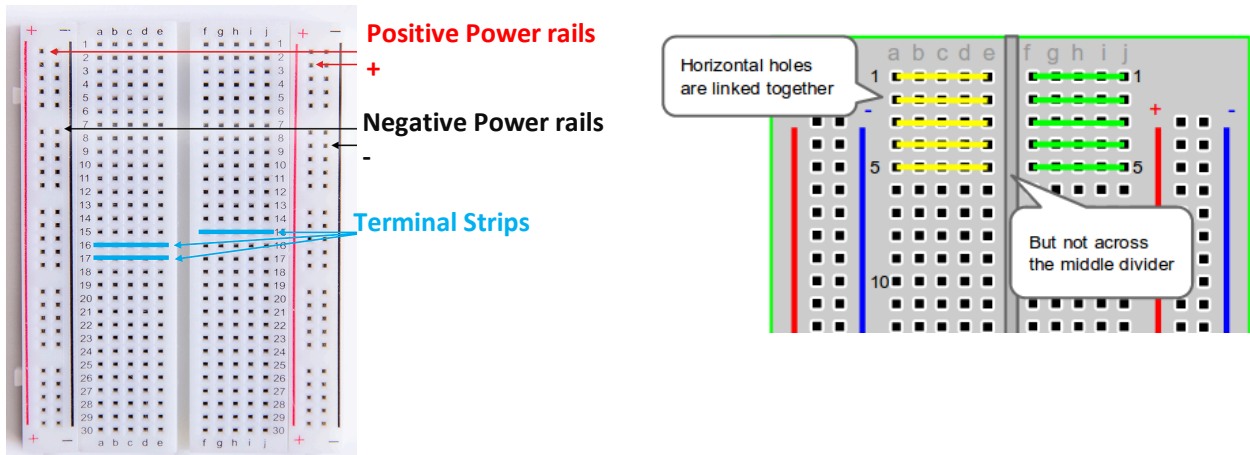

Figure 4. Breadboard configuration
2.1. Understand the breadboard configuration (*Figure 4*).